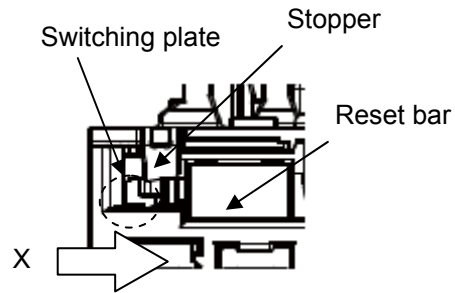

Fig. 2
2. Cut off the stopper, and then press down on the reset bar and slide the switching plate (white) in the direction of arrow X. (Fig. 2)